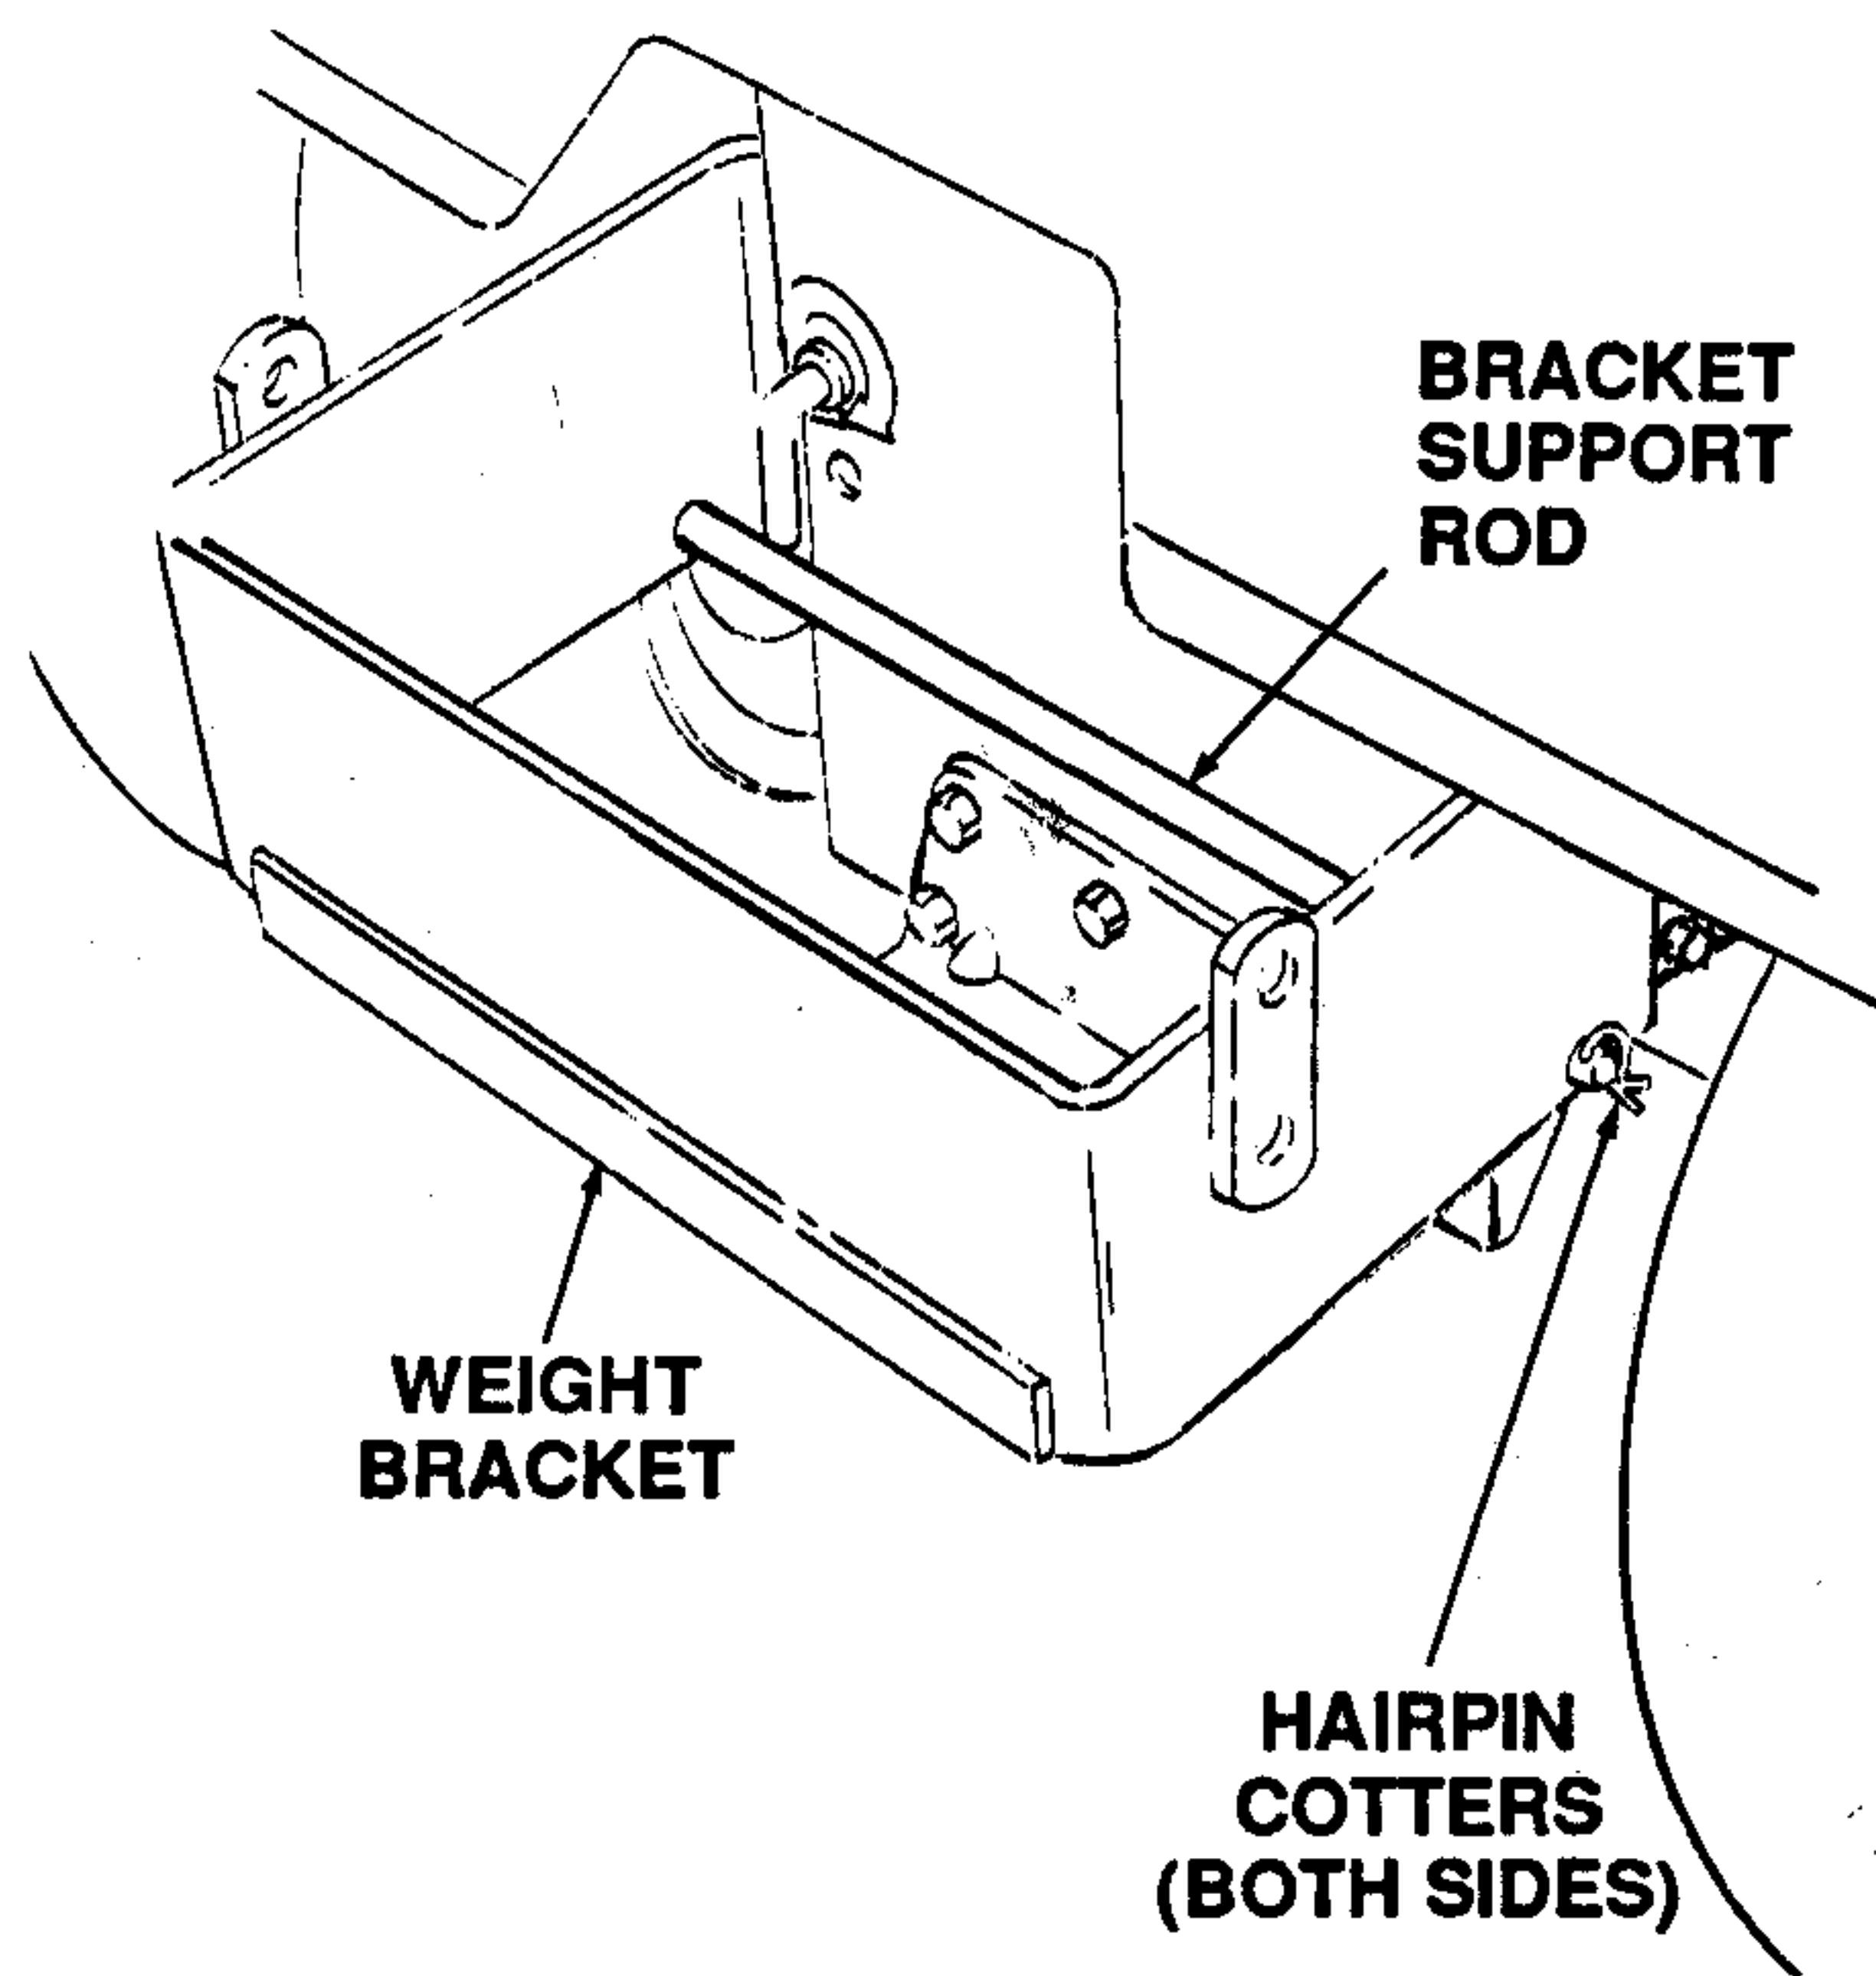

Figure 6
- Attach hairpin cotters to both sides of bracket support rod as shown in Figure 6. Tighten the four mounting hex cap screws.